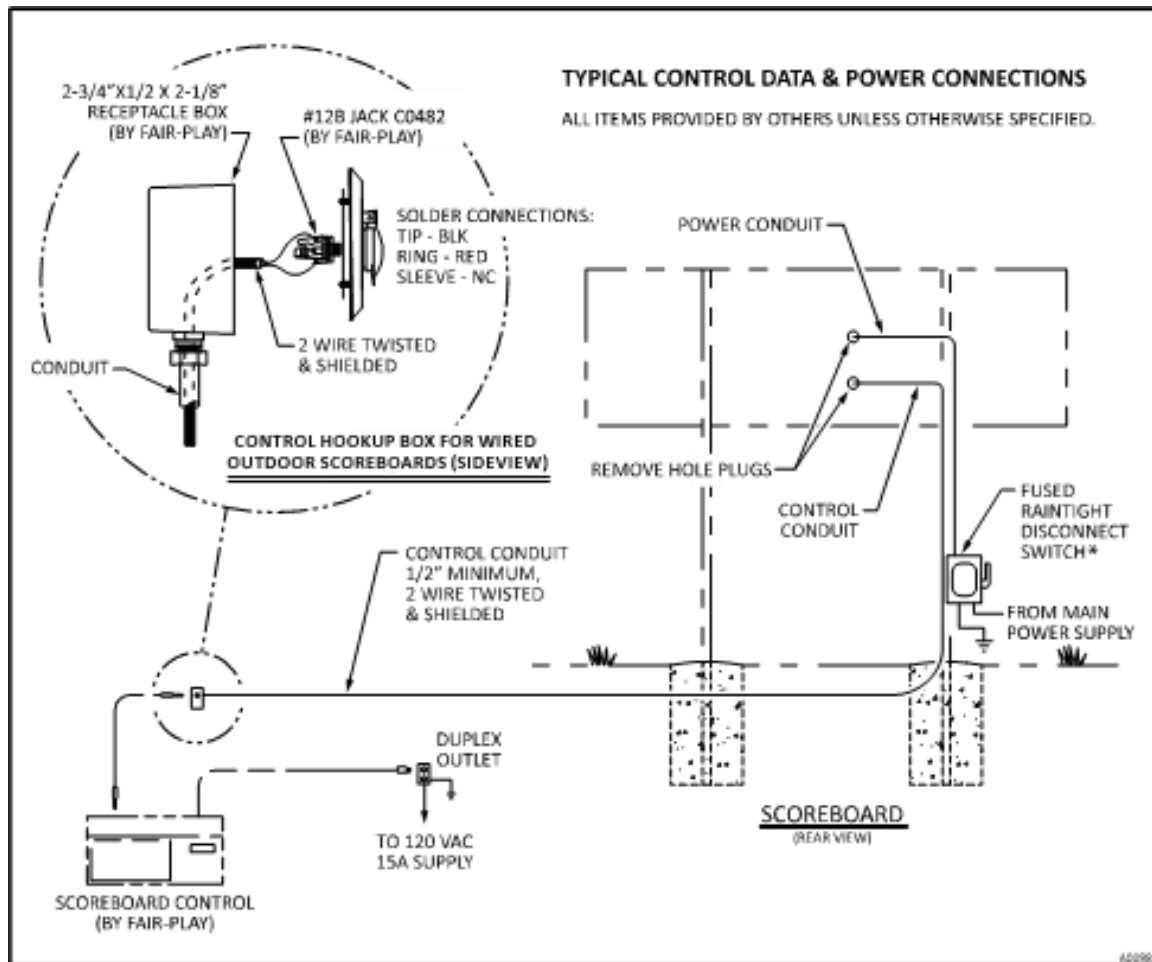

FIGURE 8 — CONTROL DATA & POWER CONDUIT ROUTING
- Refer to Figure 8 — Control Data & Power Conduit Routing below.
A fused disconnect (provided by others) must be installed. The location of the disconnect switch after installation shall comply with Section 600.6(A) of the National Electrical Code. Refer to Figure 8 on page 7.